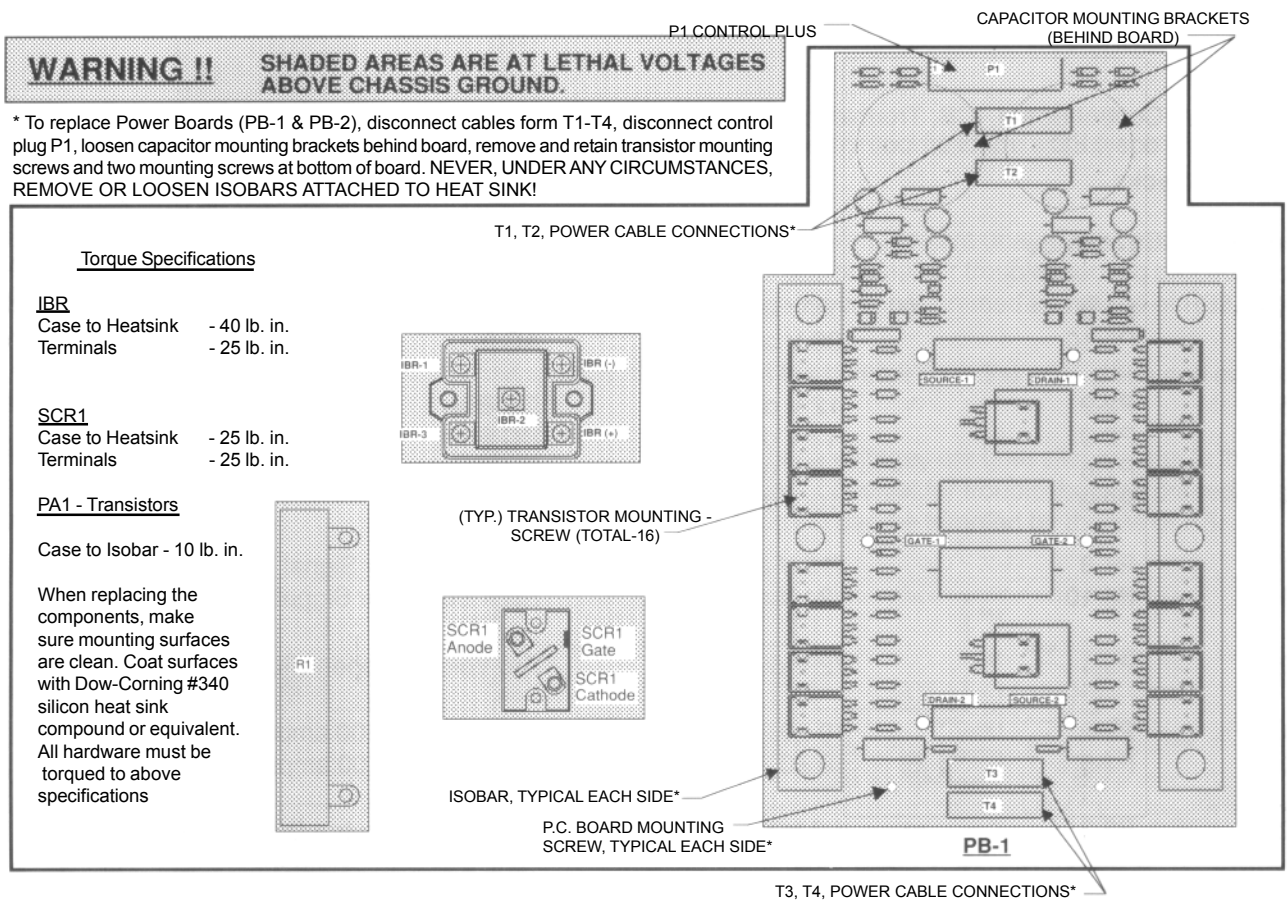

Figure 5-1. Left Side Power/Control Components (PB-1, SCR1, IBR, R1)
4. With input power deenergized and side panels removed, locate the Input Bridge Module (IBR) (see Figures 5-1 and 6-5). Using the existing wiring diagram (Figure 5-5), disconnect and tape the large gray leads attached to terminals IBR (+) and IBR (-). This will prevent high voltage input to power boards No. 1 and No. 2, eliminating the potential hazard while performing the low voltage checks in step 5.
Check the problem using the following troubleshooting guide (Figure 5-1). The potential problems are listed in "most probable" order, and the remedy may be quite simple. If the cause cannot be located quickly, open the power source and perform a simple visual inspection of all components and wiring. Check for secure terminal and plug connections, loose or burned wiring or components, bulged or leaking capacitors, or any other sign of damage or discoloration. Always follow this general rule — Do not replace a printed circuit (PC) board until you have made all of the checks listed in the following guide. Always put the power switch in its OFF position before removing or installing a PC board. Take great care not to grasp or pull on components when removing a PC board and always place a removed board on a static-free surface. If a PC board is found to be the problem, check with your ESAB supplier for a replacement. Provide the distributor with the part number of the board, as well as the serial number of the power source. **Do not attempt to repair the board yourself. Warranty on a PC board will be null and void if repaired by customer or any unauthorized repair shop.**
C. Power Boards, PB1/PB2, Troubleshooting (See Figures 5-1 and 5-2)
D. Input Bridge, IBR, Troubleshooting (See Figure 5-1)
F. SCR1 Troubleshooting (See Figure 5-1)**Resistance Checks**